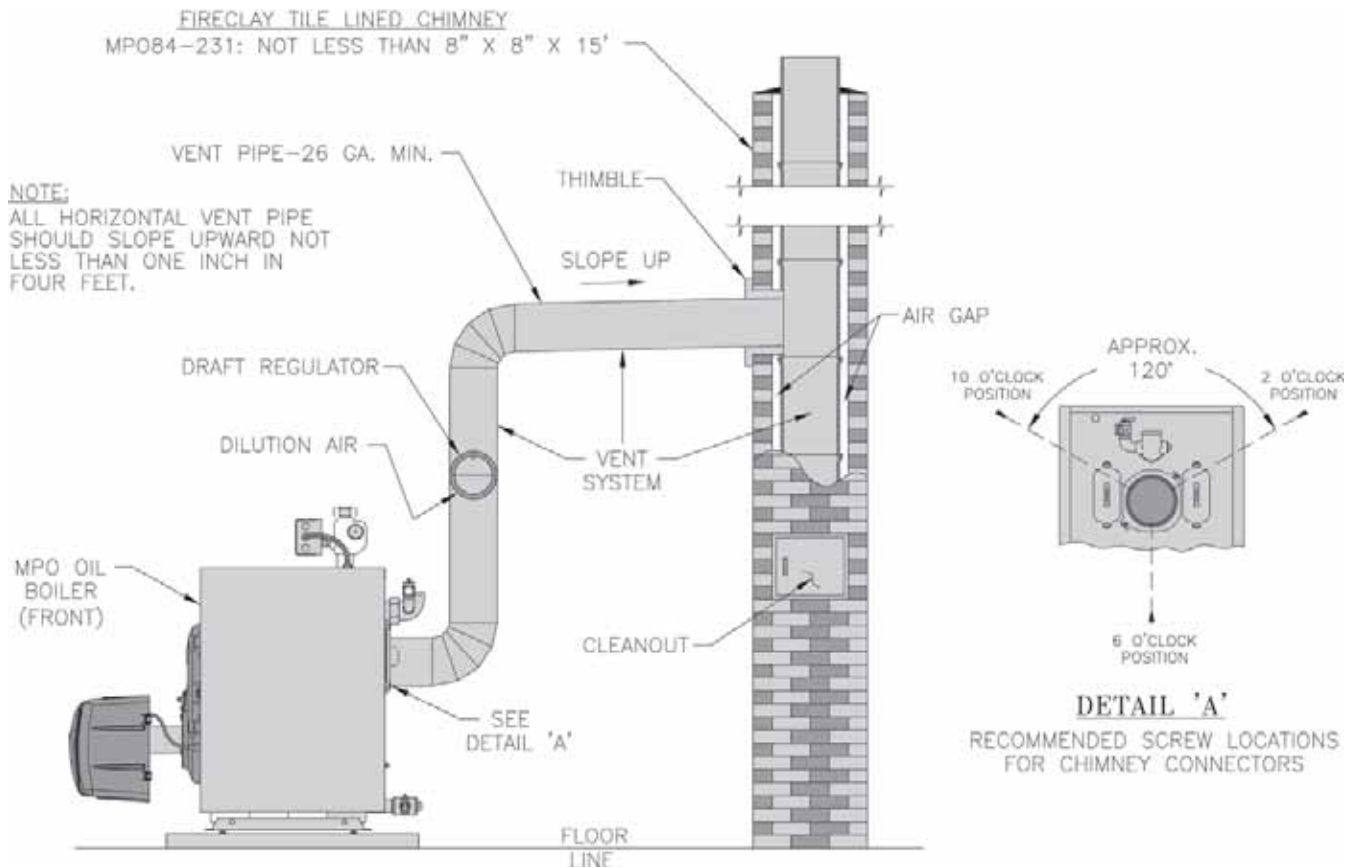

Figure 21: Recommended Vent Pipe Arrangement and Chimney Requirements
3. The MPO can be vented into a fireclay tile-lined masonry chimney that meets requirements outlined in Paragraph 4 below. It can also be vented into a chimney constructed from type L vent or a factory built chimney that complies with the type HT requirements of UL 103. The chimney and vent pipe shall have a sufficient draft at all times, to assure safe proper operation of the boiler. See Figure 21 for recommended installation.
5. Draft Regulator – the draft regulator supplied with the boiler must be used with this appliance. No other draft regulator shall be used. Refer to Figures 21 and 22.
NOTE: Secure chimney connector to cast iron smokebox collar with three (3) #10 x ½" self drilling hex head TEK screws provided in miscellaneous parts carton. Locate screws around perimeter of connector as shown in Figure 21 and approximately ½" in from edge. Use drill with 5/16" hex bit to drive screws through connector and smokebox collar.